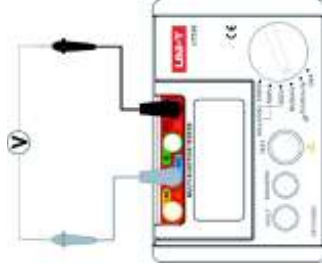

Figure 4
X. Measuring Voltage (See Figure 4)